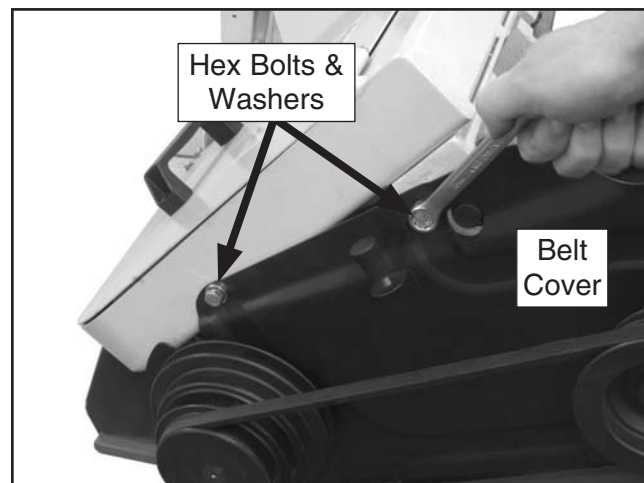

Figure 16. Mounting belt cover.
14. Slide the pulley cover behind the motor pulley first, then the gearbox pulley. Mount it using the hardware removed in **Step 13**, as shown in **Figure 16**.